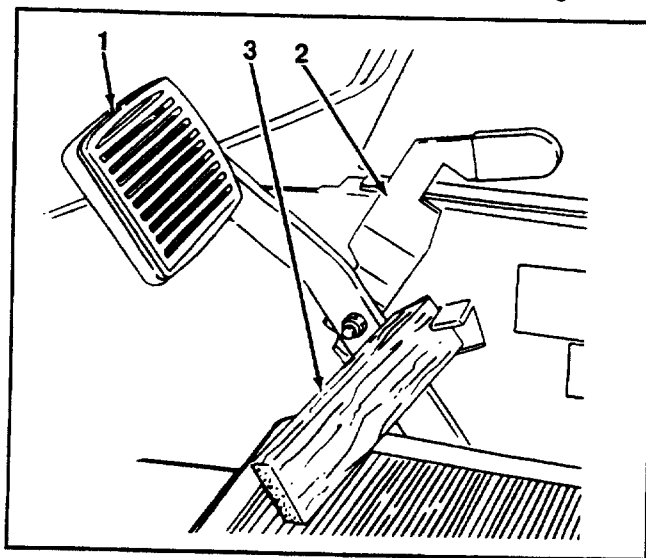

FIGURE 2.
1. To check brake adjustment, place a 1/2 inch thick wood block between the single brake pedal and the brake pedal lock. See figure 2.